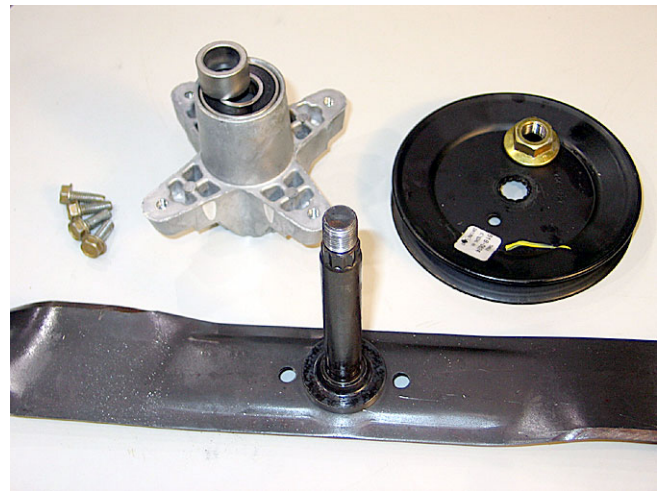

Figure 17
- 5.6. Assemble the spindle in reverse order of disassembly. See Figure 17.